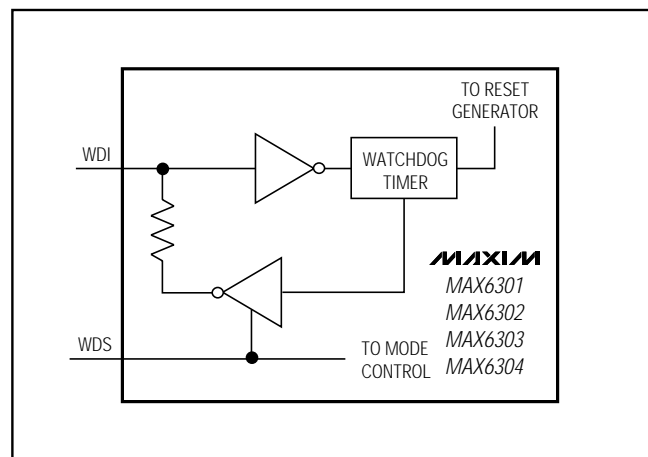

Figure 8. Watchdog Input Structure
**Note 4:** The sink/source is supplied through a resistor, and is proportional to  $V_{CC}$  (Figure 8). At  $V_{CC} = 2V$ , it is typically  $\pm 24\mu A$ .
In extended mode ( $\text{WDS} = V_{CC}$ ), the WDI input is internally driven through a buffer and series resistor from the watchdog counter (Figure 8). When WDI is left unconnected, the watchdog timer is serviced within the